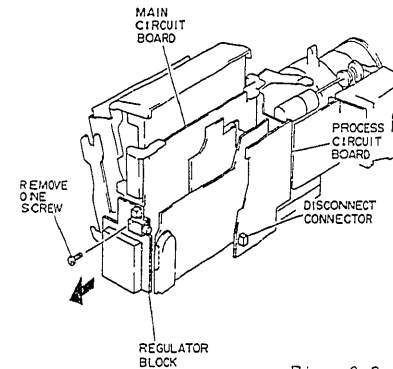

Fig. 2-9
- 1) Disconnect connector CN526 on the process circuit board. (See Fig. 2-9)
- 2) Remove one (1) screw holding the regulator block.